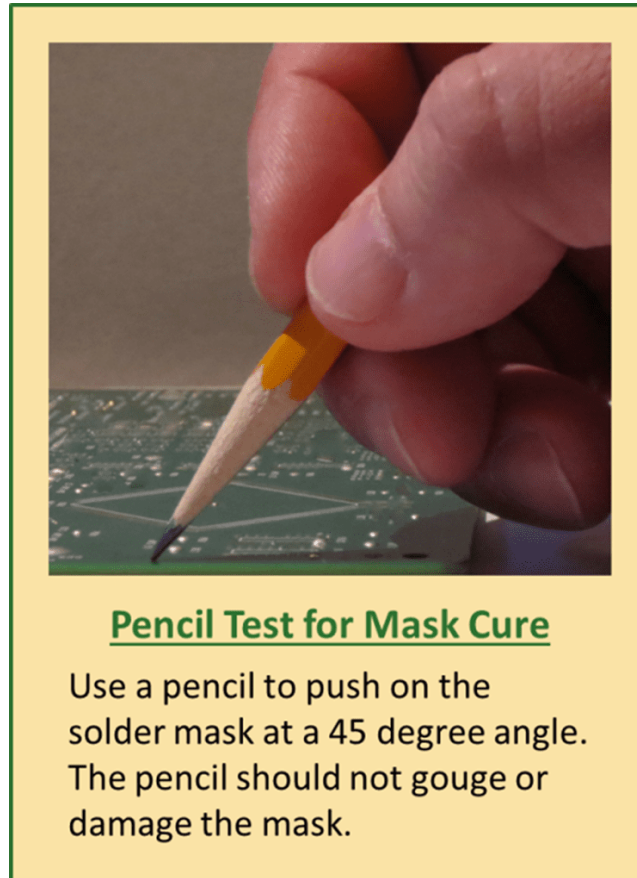

Figure 2. Pencil test for mask cure.
- **Pencil test.** Use a freshly sharpened wooden pencil. Hold it at a 45° angle and press firmly away from you (**Figure 2**). If the solder mask lifts or gouges, it is not sufficiently hard. This may be the result of improper curing or insufficient hardener added to the mask before curing. The pencil used was likely a #2H (we're all familiar with those from standardized tests). Pencils are graded on a hardness scale, and any graphite graded less than #6H should not gouge solder mask. A #6H or a complete kit of varying hardness pencils can be found at art supply stores.